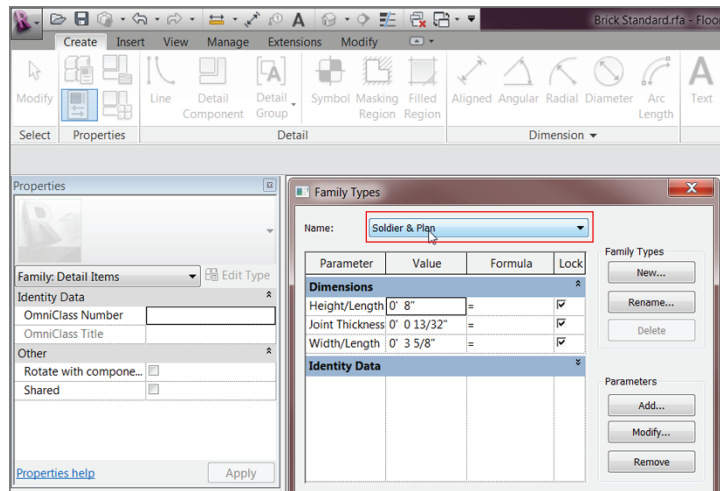

FIGURE 12.15: Cleaning out the extra types
3. Click the Family Types button, as shown in Figure 12.15.